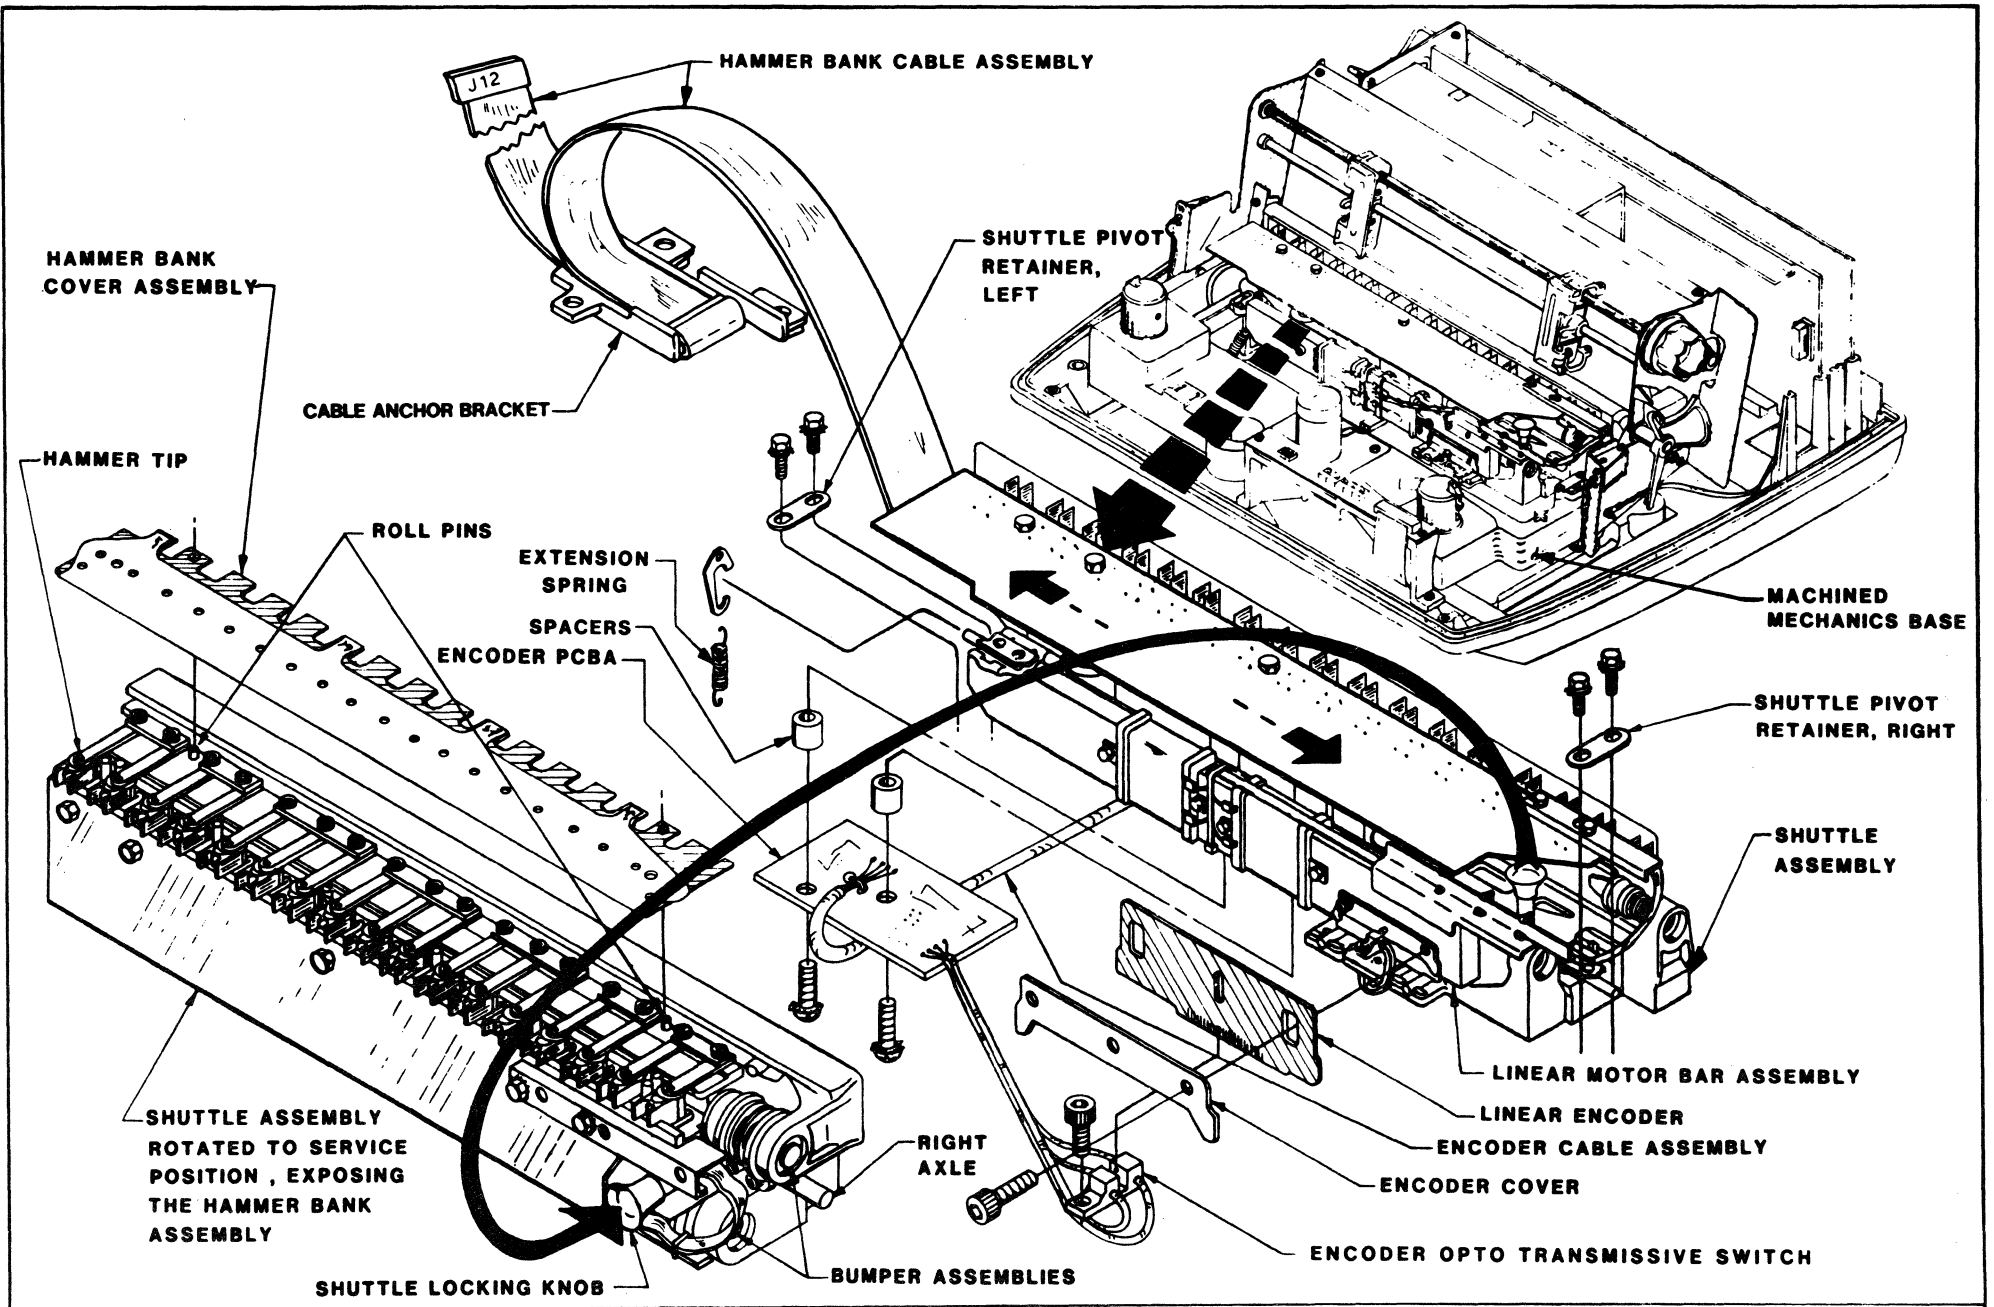

Figure 3-8. The Shuttle Assembly in Normal and Service Positions
The Shuttle Assembly (**Figure 3-8**) includes the following major assemblies:
2. At the left side of the shuttle, push the Hammer Bank Cable Assembly aside and remove the two hex-head screws and lock washers holding the shuttle pivot retainer (**Figure 3-8**); then, remove the retainer.
To remove the Shuttle Assembly as a complete unit, refer to **Figure 3-8** and perform the following steps: